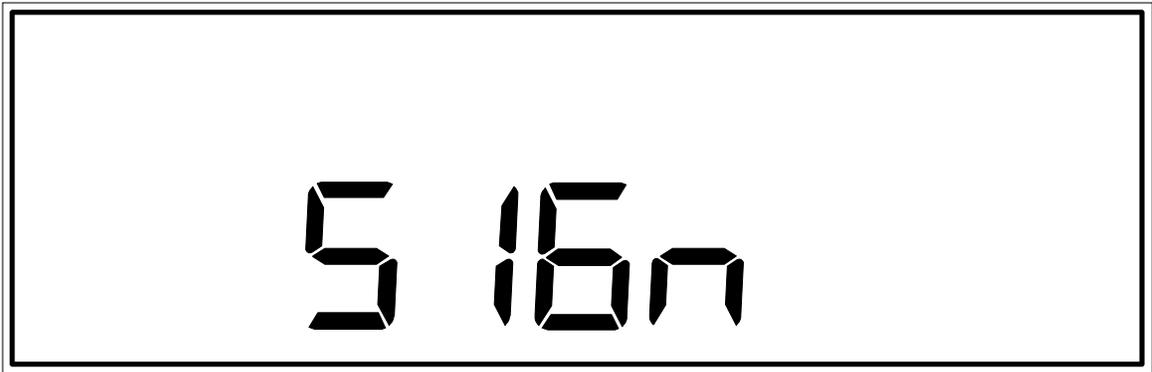

Figure 87: The Keypad Test Result for the [+/-] Key
The system should respond by clearing the window and showing the number four (4) in the right display. All keys on the keypad can now be tested. To test a key simply press it. For example, if the [1/1] key is pressed, the number 1 appears in the main display. If the [2/2] key is pressed, the number 2 appears in the main display. The following chart lists what is shown in the main display for every key on the keypad. Figures 87 and 88 provide examples of some keypad test results.
[+/-]	The word SIGN (as shown in Figure 87, page 295)